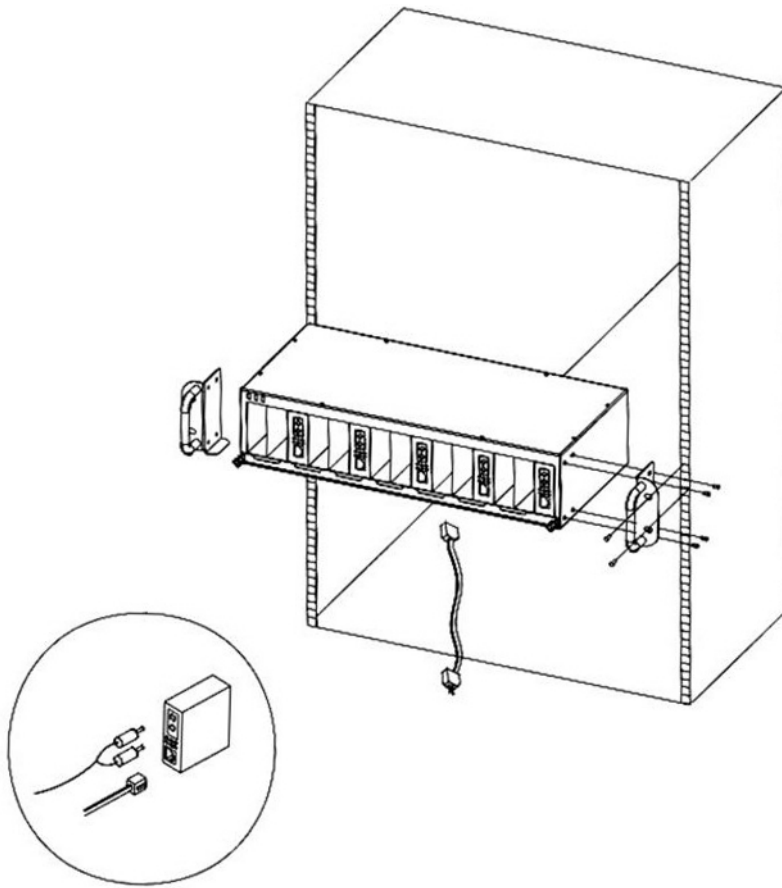

Figure 2-6 Mounting the Chassis in a Rack
Step 4: After the brackets are attached to the chassis, use suitable screws to securely attach the brackets to the rack, as shown in Figure 2-6.